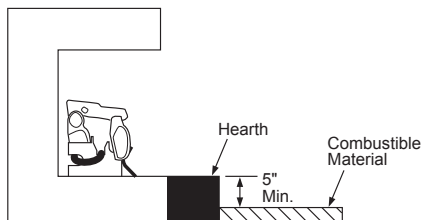

Figure 9 - Minimum Fireplace Clearances Above Combustible Flooring
B. If combustibile materials are less than 14" to the fireplace, you must install appliance at least 5" above the combustibile flooring (see Figure 9).